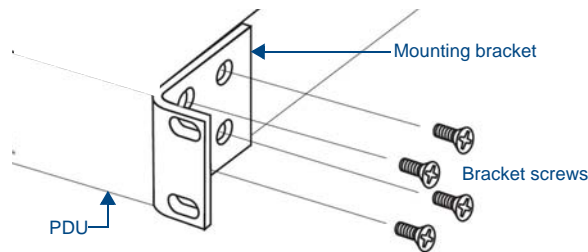

FIG. 4 Attaching the Brackets
1. Attach the brackets to the PDU using the bracket screws provided in the Bracket Mounting Kit (FIG. 4).